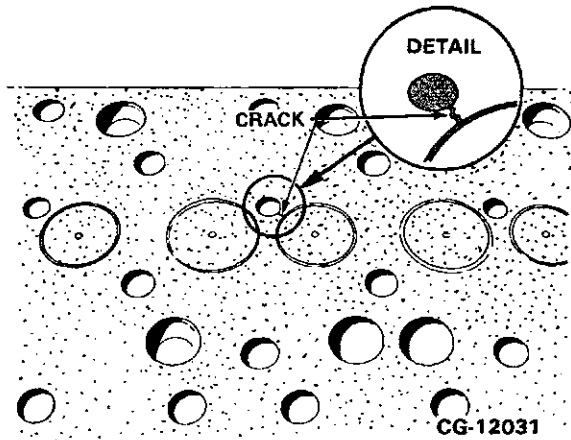

Figure 4.13. Example of Cylinder Head Crack
**NOTE:** Cracks will show up as purple lines against the white developer. Refer to Figure 4.13.